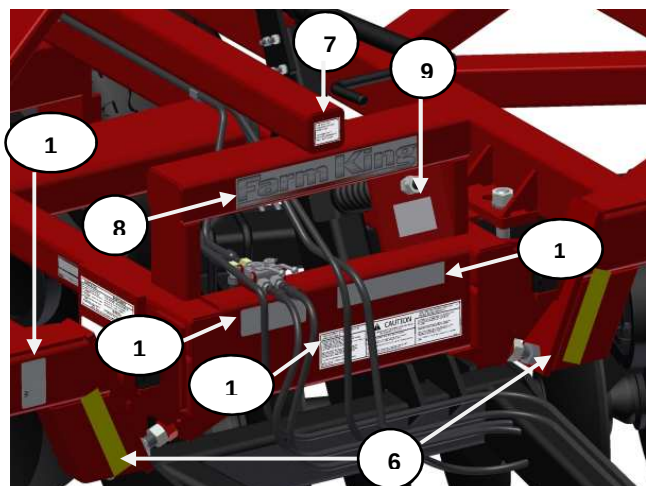

Figure 4 Front of Main Frame
Put decals Crank assembly (7), wings transport (9), Danger caution (10), Caution (11), Yellow reflectors (6), Important warning hydraulic (12), Farm King (8) and Warning safety lock pin (13) on front side of the main frame (**Figure 4**).